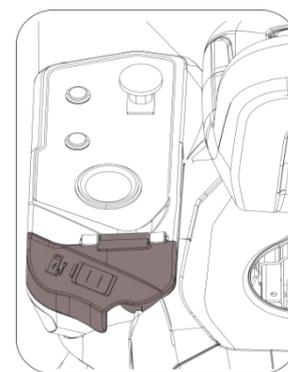

Figure 5.1
2. Lift the cap on the recharging socket (fig. 5.1);